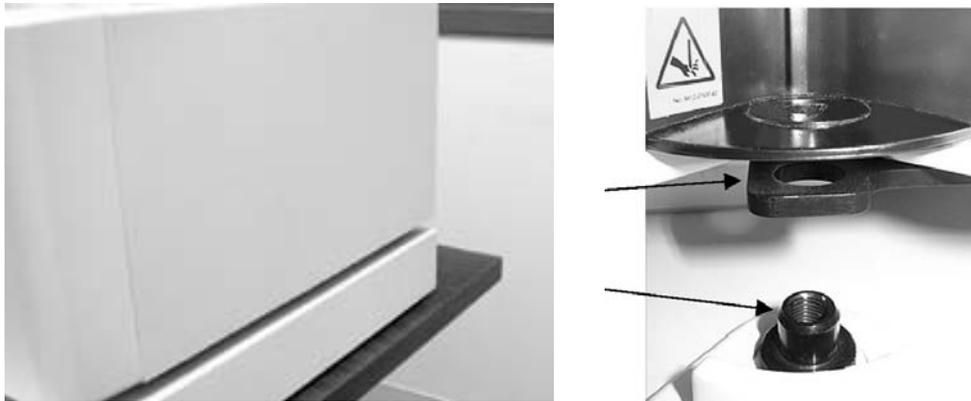

Fig. 10. Reader aligned on top of microplate platform.
4. Make sure that the power switch to the microplate platform is off, and connect the communications cable to the microplate platform's communication cable port. Attach a power cord to the power connector of the microplate platform, but do not plug it into an outlet until the array reader and microplate platform are aligned (Figure 10).
2. Carefully place the array reader onto the microplate platform so that the back edges and corners of both instruments are in alignment and the black alignment plate on the reader (top arrow, Figure 10) fits over the black knob on the top of the microplate platform (bottom arrow, Figure 10).